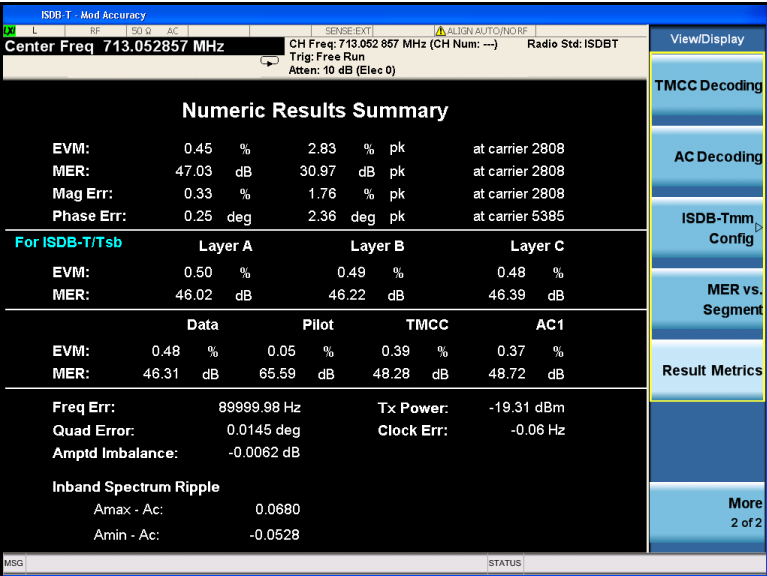

Figure 19. Modulation accuracy measurement with results metrics view
View result metrics (Figure 19)	[View/Display] {Result Metrics}
- **Result metrics** view (Figure 19): This view displays the summary of all the detailed numeric result metrics.